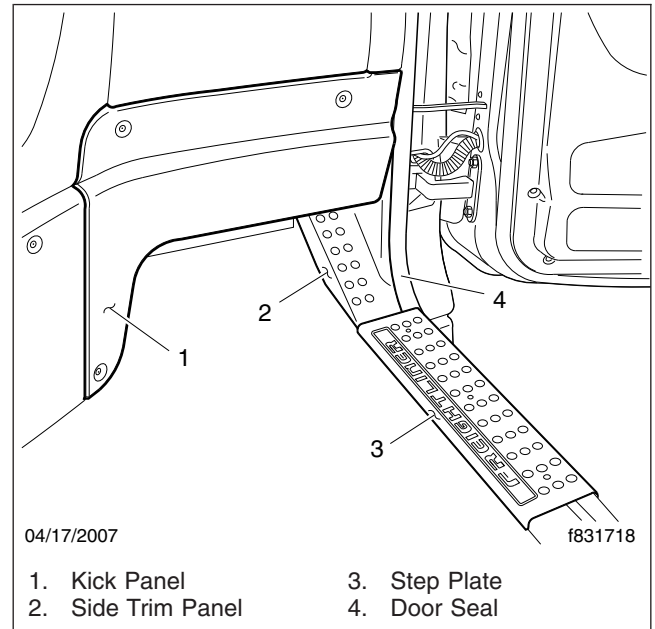

Fig. 6, Panels
2. Loosen the passenger-side kick panel, tilt it out, and carefully twist and remove the light bulb socket from the lens on the back of the panel. Move the panel out of the way. See Fig. 6.